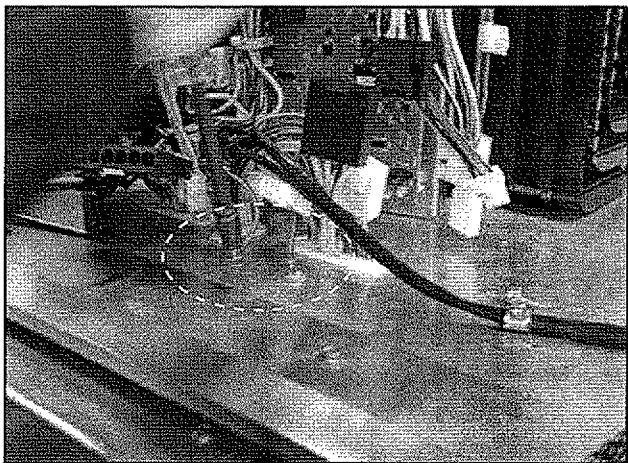

FIGURE 9
11. Remove the grounding wire connections to the unit high voltage (HV) box assembly. Set screws aside. See *Figure 9*.